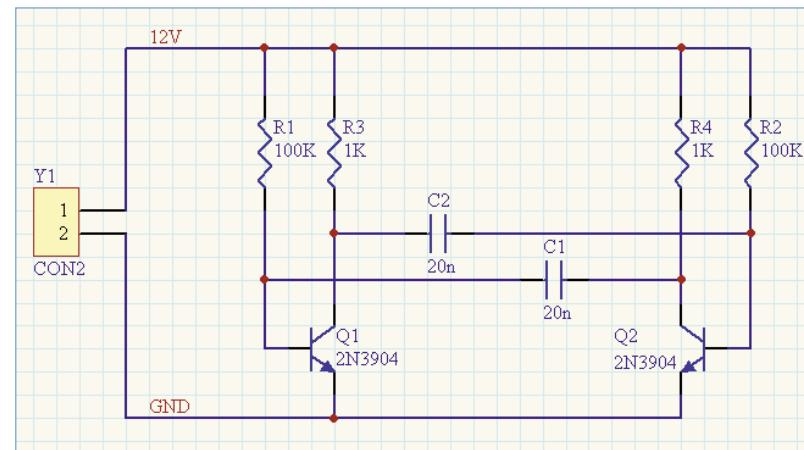

Figure 3
- Wire up the rest of your circuit, as shown in Figure 3.
- Place the net label such that the bottom left of the net label touches the upper most wire on the schematic, as shown in Figure 3.
- Type **GND** in the **Net** field, click **OK** to close the dialog, then place the net label as shown in Figure 3.
A wire that crosses the end of a pin will connect to that pin, even if you delete the junction. Check that your circuit looks like Figure 3 before proceeding.